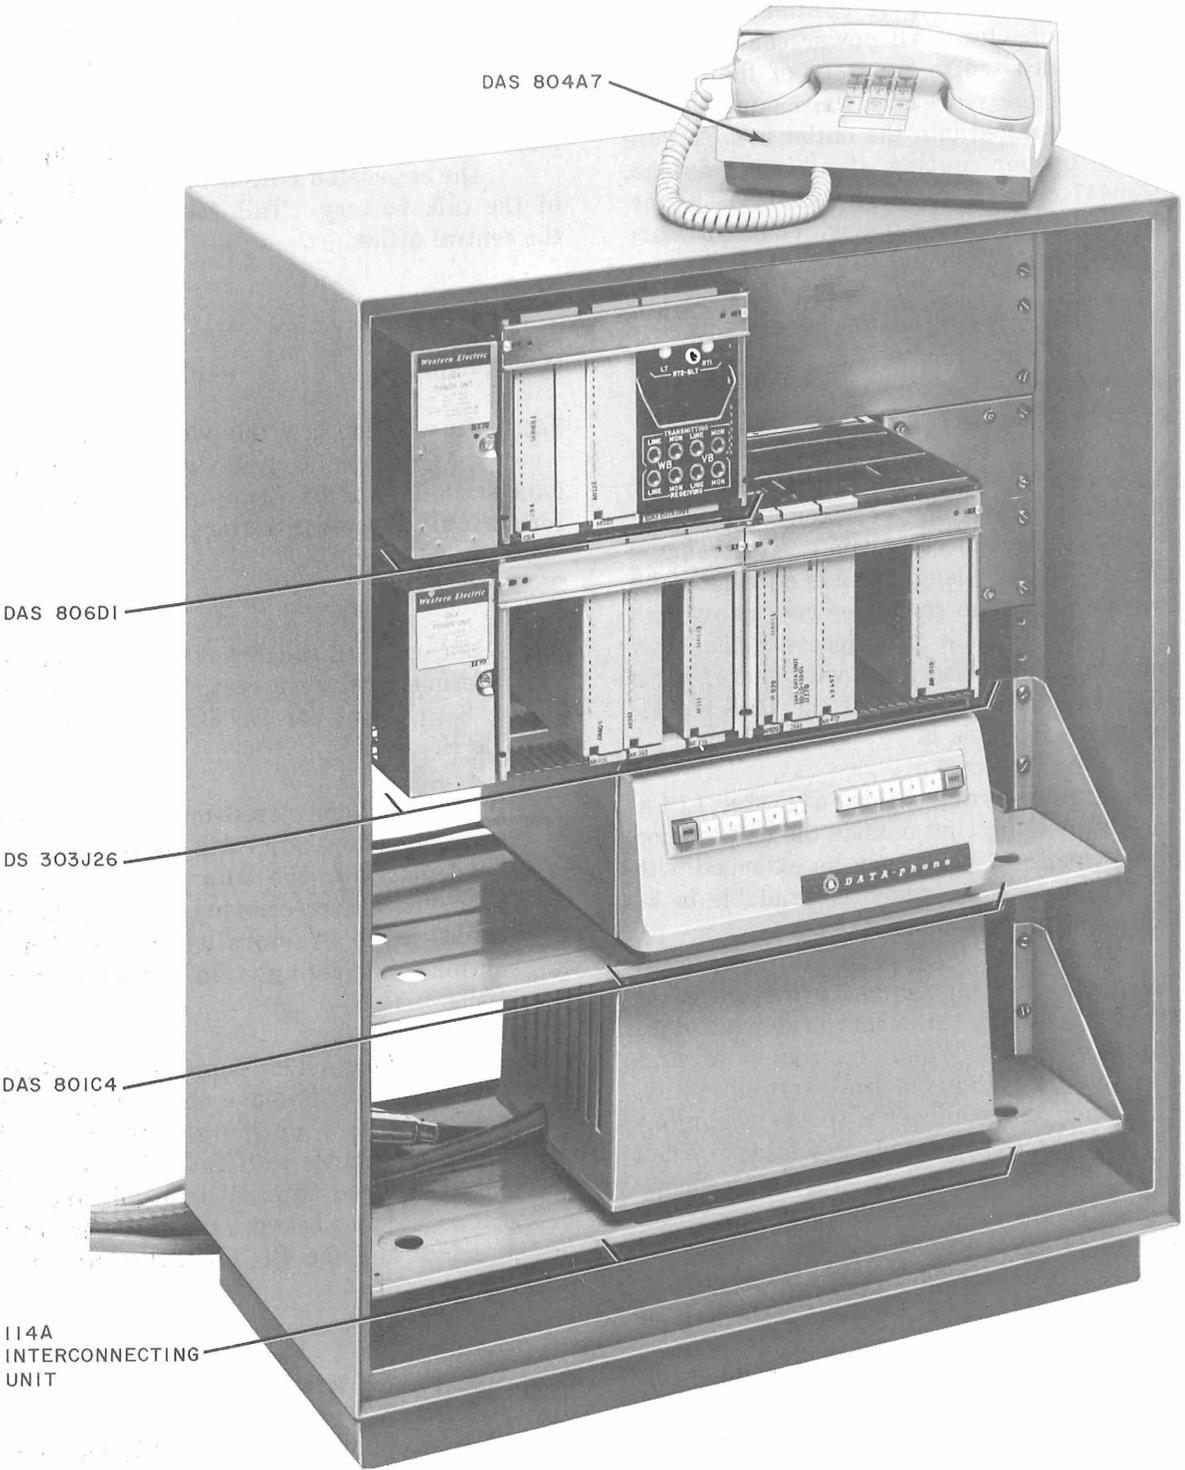
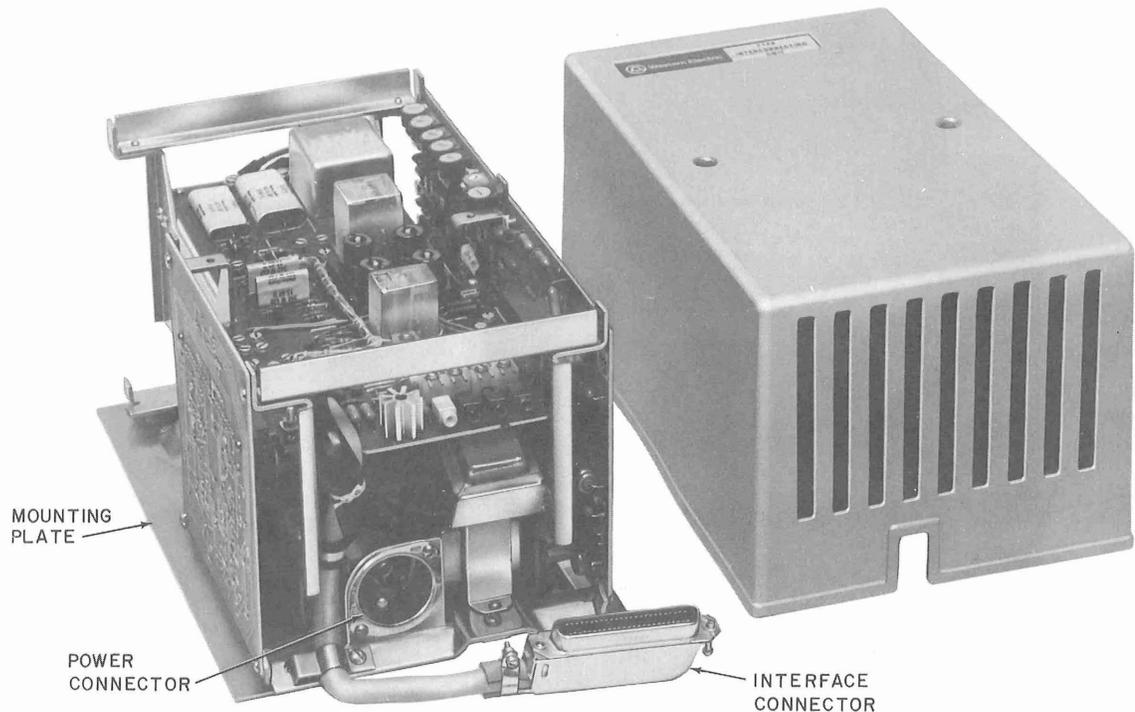

Fig. 2—Data Set 303J26 Wideband Data Station
Fig. 6—114A Interconnecting Unit, Cover Removed
3.05 The following part of this practice will describe the installation of DS 303J26, DAS 804A7, DAS 806D1, and the 114A Interconnecting Unit when located within the wideband data station cabinet. In some installations, a DAS 801C4 may be provided. When DAS 801C4 is provided, refer to the part of this section entitled Data Set 303J26, Data Auxiliary Set 804A7, Data Auxiliary Set 806D1, and Data Auxiliary Set 801C4. Figure 2 shows a complete wideband data station and also shows the 114A Interconnecting Unit installed in the data station cabinet. The 114A Interconnecting Unit and DAS 801C4 may, however, be mounted outside the cabinet. The L4 cabinet may still be used since the larger cabinet permits flexibility in arrangement. Figures 3 and 4 show a block wiring diagram of the single line station and key telephone system arrangements.
3.06 The chassis of DS 303J26 with its 87-type mounting bracket attached is fastened to the mounting strips (located on the side of the cabinet) by four or eight bolts which screw into prethreaded holes (a minimum of two on each side). The DS 303J26 is to be mounted in the position shown in Fig. 2. When viewing the station from the front, the 26A power unit should be located on the left side.
3.12 The 114A Interconnecting Unit is part of the PICTUREPHONE line facilities; therefore, it is not necessary that it be mounted in the wideband data station cabinet. The 114A Interconnecting Unit may be remotely located from the data station by a distance not to exceed 100 cable feet. When it is desired to locate the 114A Interconnecting Unit inside the data station cabinet, it should be located on a shelf installed in the lower-tier position. Prior to installing the 114A Interconnecting Unit, carefully remove and store its cover in a safe place for future use. Refer to Fig. 6 which shows the 114A Interconnecting Unit with the cover removed. When the 114A Interconnecting Unit is to be installed in the data station cabinet, it should be installed from the front side. Connecting cables attached should exit to the left as viewed from the front of the cabinet. (See Fig. 2.)